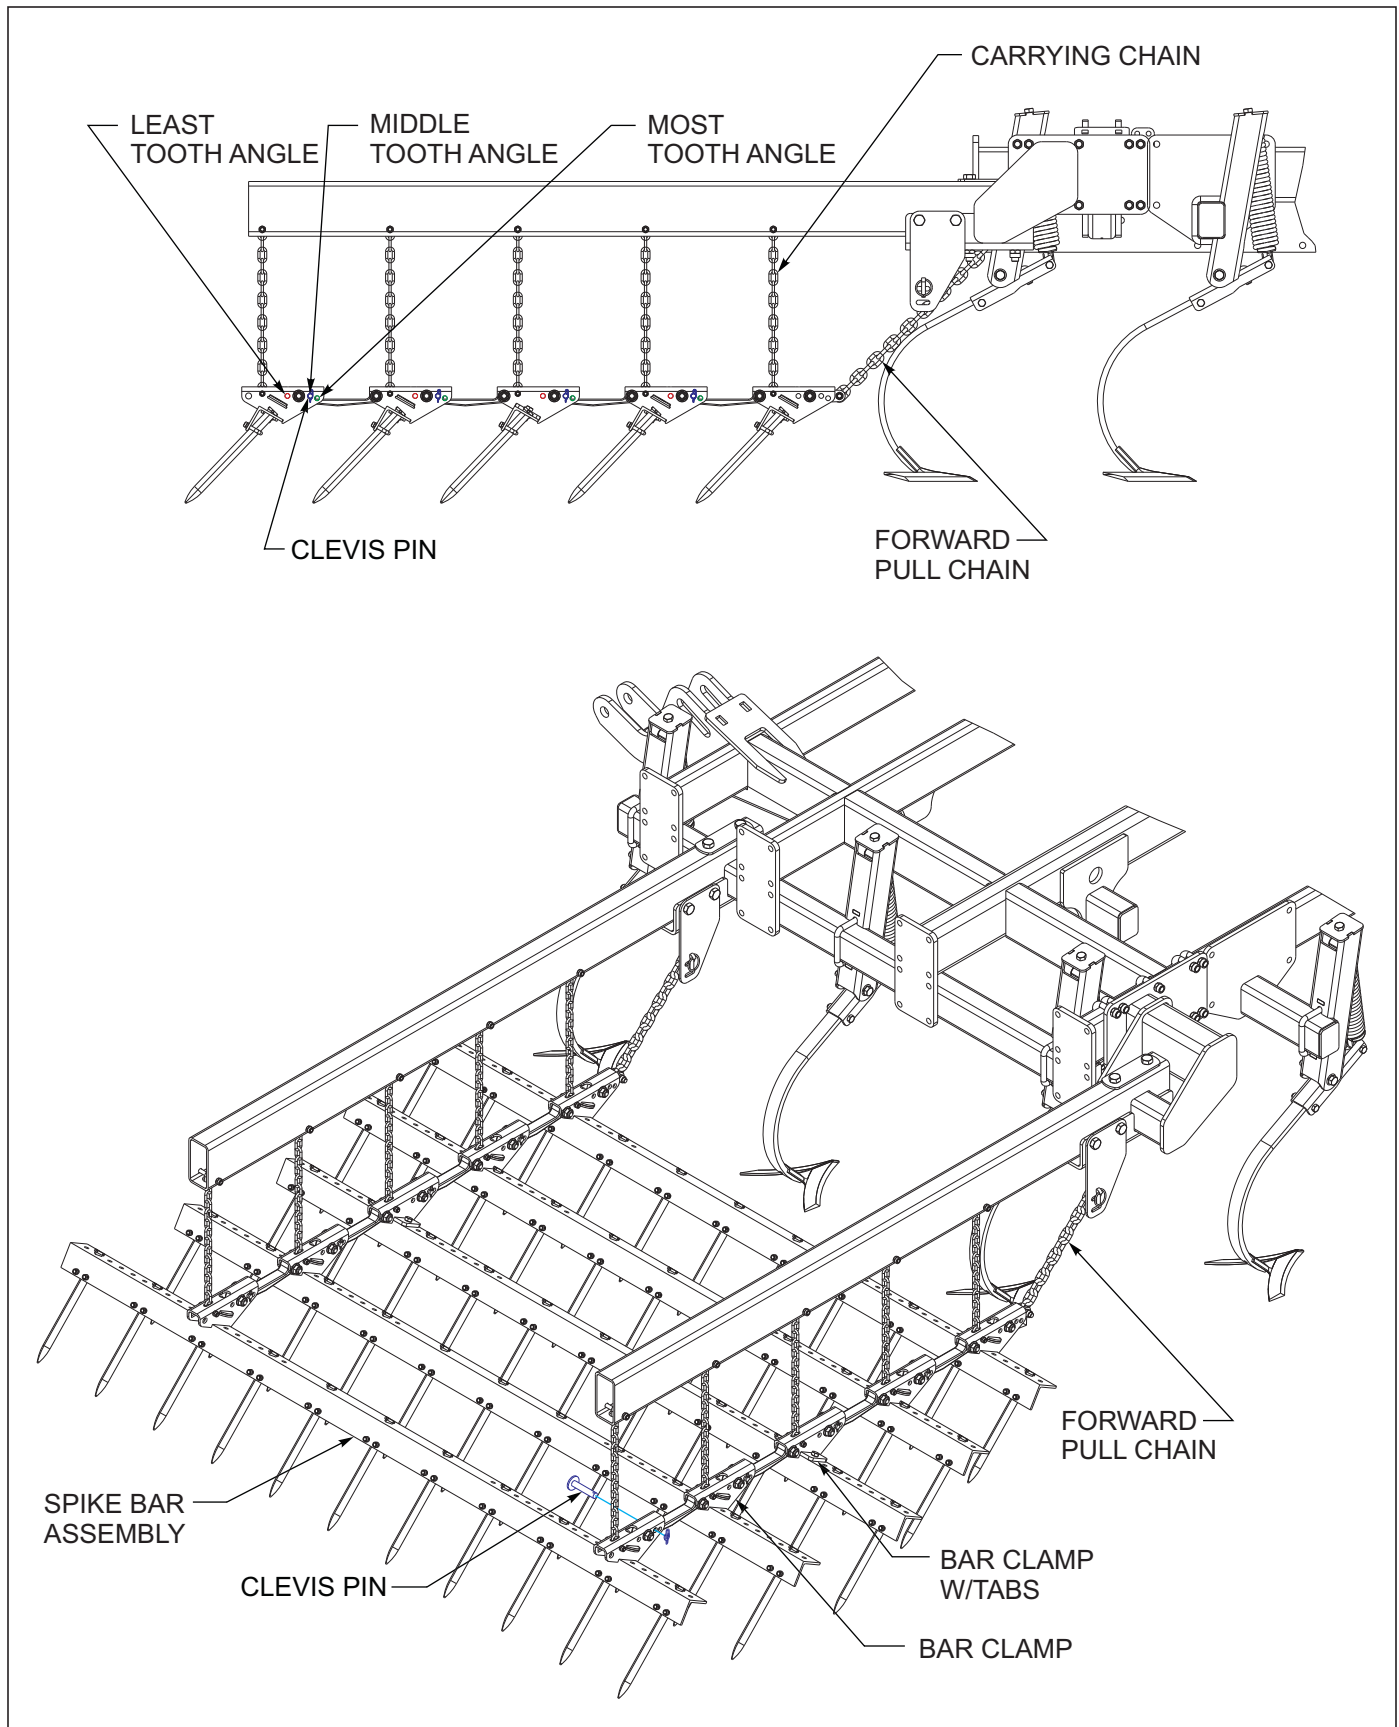

Figure 4-18: 5 Row Spike Harrow Adjustments
2. For the most aggressive spike to action, install the harrow adjustment pin in the forward mounting hole over each bar clamp for each spike bar **See Figure 4-18**. This will position the spike teeth to be in the most vertical position. In wetter or conditions with some residue, lower the spike tooth angle by positioning the harrow adjustment pin in the middle or rear hole. This will allow the teeth to lay flatter and shed more residue.
3. The forward pull chain will also influence how the 5 row spike operates as well **See Figure 4-18**. A taller pull point and shorter adjusted pull chain can help to start residue through the harrow. A lower pull point with a longer adjusted pull chain will help the entire harrow to run flatter from front-to-rear, and be more aggressive for increased leveling. When adjusting the pull chain, insert the desired pulling link through the slotted hole in the pull chain bracket, and install a lynch pin thru the link to secure the chain in place. Make sure the pull chains are set evenly for each section.